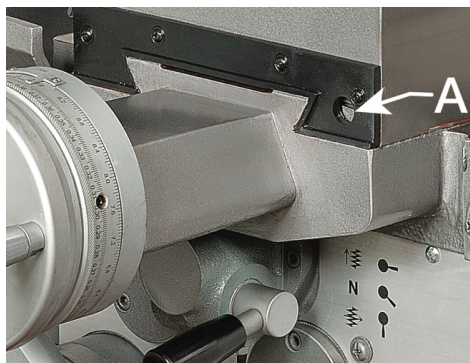

Figure 14-3
2. Tighten front gib (A, Figure 14-3) screw a quarter turn. Turn the cross slide handwheel to see if the cross slide is still loose. If it is still loose, tighten the front screw a bit more and try again.